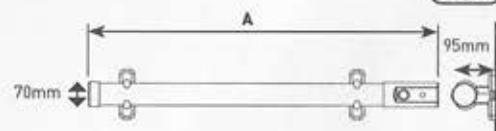

Fig.2
- Dimensions of the heaters are shown in [FIG.2].